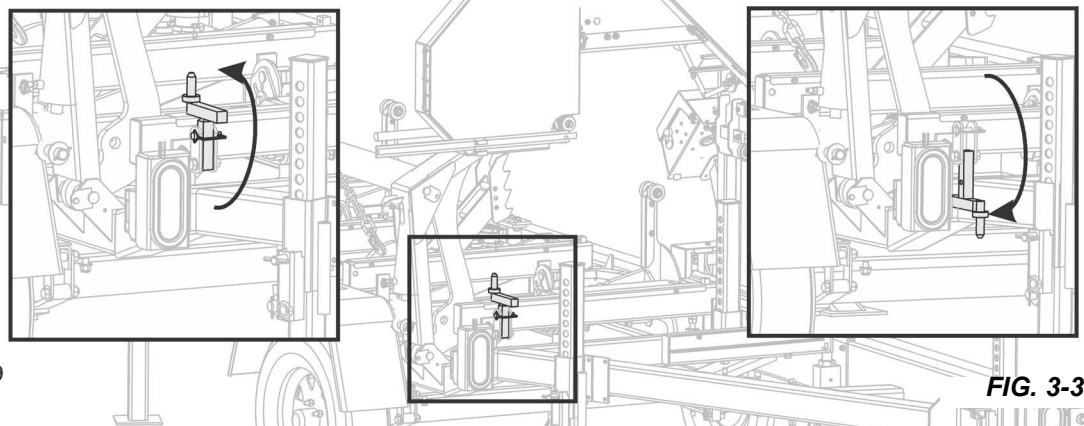

FIG. 3-3
7. Remove the locking pin and swing the rest pin down below bed level. See FIG. 3-3.